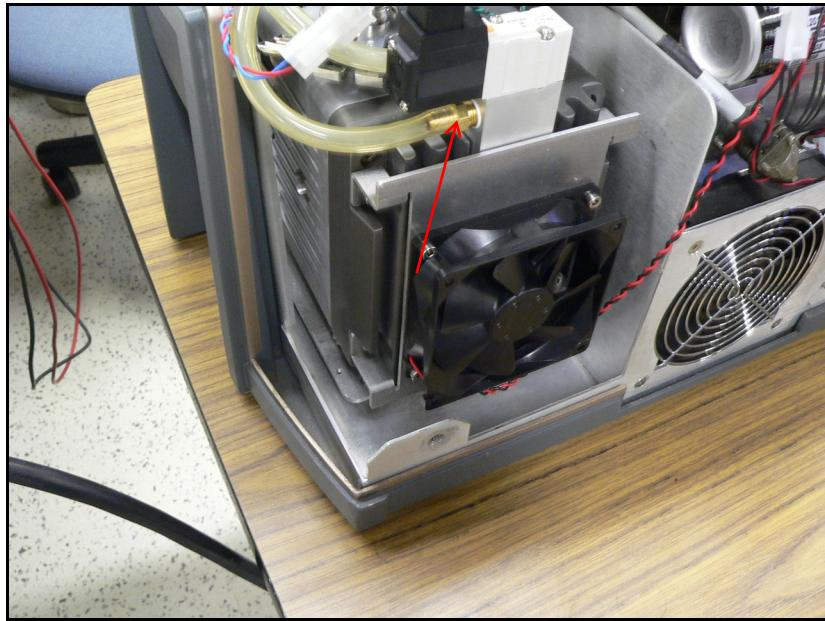

Figure 4: Exhaust Hose
6. Disconnect the exhaust hose (Figure 4: Exhaust Hose).